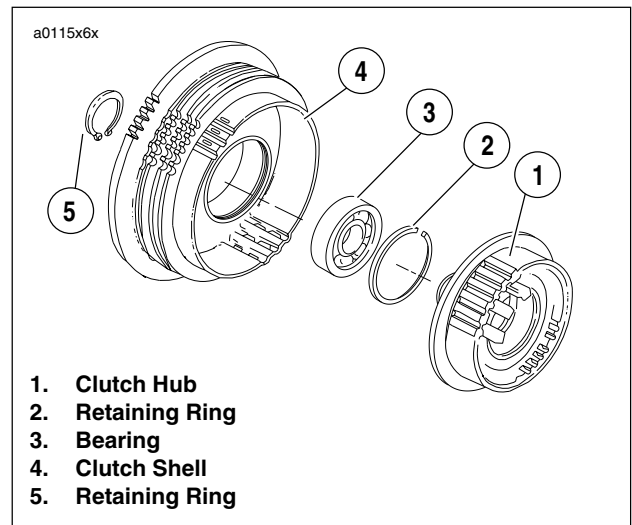

Figure 6-28. Clutch Hub and Shell Assembly
- c. See Figure 6-28. Place a wrench on the clutch spring forcing screw flats to prevent the forcing screw from turning.
1. See Figure 6-28. Assemble clutch hub and shell if necessary.